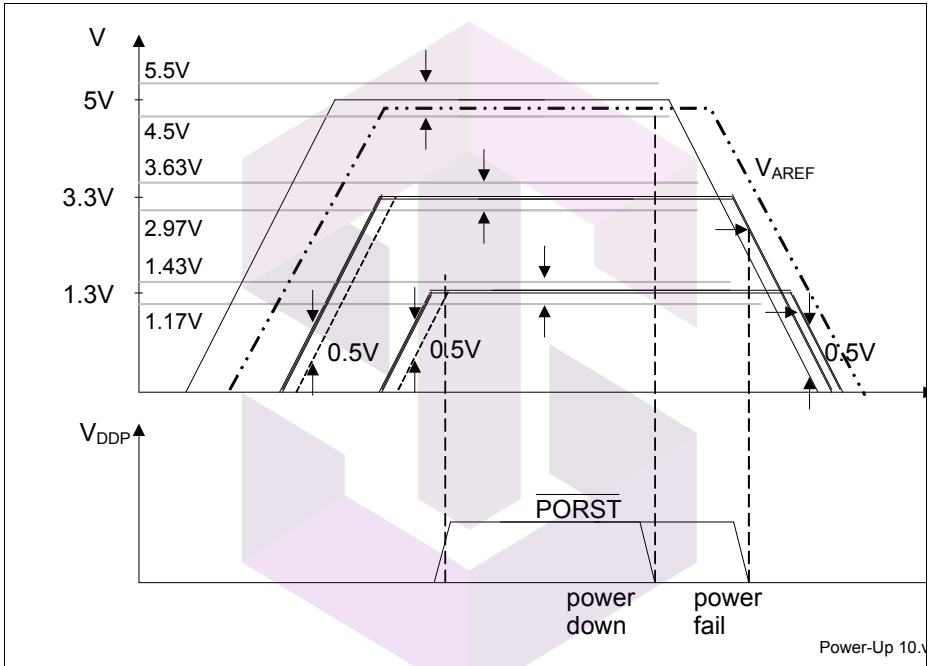

Figure 15 5 V / 3.3 V / 1.3 V Power-Up/Down Sequence
- At any moment in time to avoid increased latch-up risk, each power supply must be higher than any lower_power_supply - 0.5 V, or: $V_{DD5} > V_{DDP} - 0.5\text{ V}$; $V_{DD5} > V_{DD} - 0.5\text{ V}$; $V_{DDP} > V_{DD} - 0.5\text{ V}$, see Figure 15.